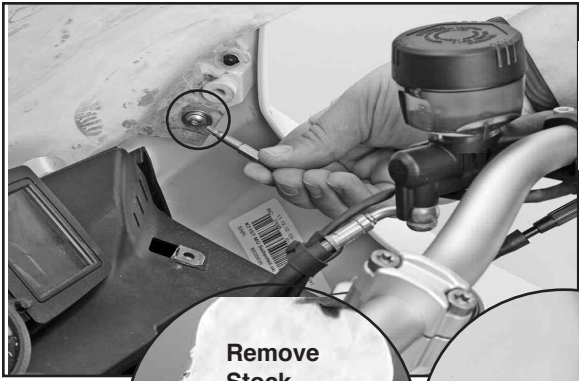

Figure 5
D. Remove the stock M6 x 30mm Fillister Head Screw from side of screen. Hardware will not be re-used. **(T25 Torx) Figure 5**
F. Remove stock Windscreen. **Figure 5**
G. Remove stock Grommets from Windscreen. Grommets will be re-used. **Figure 5**